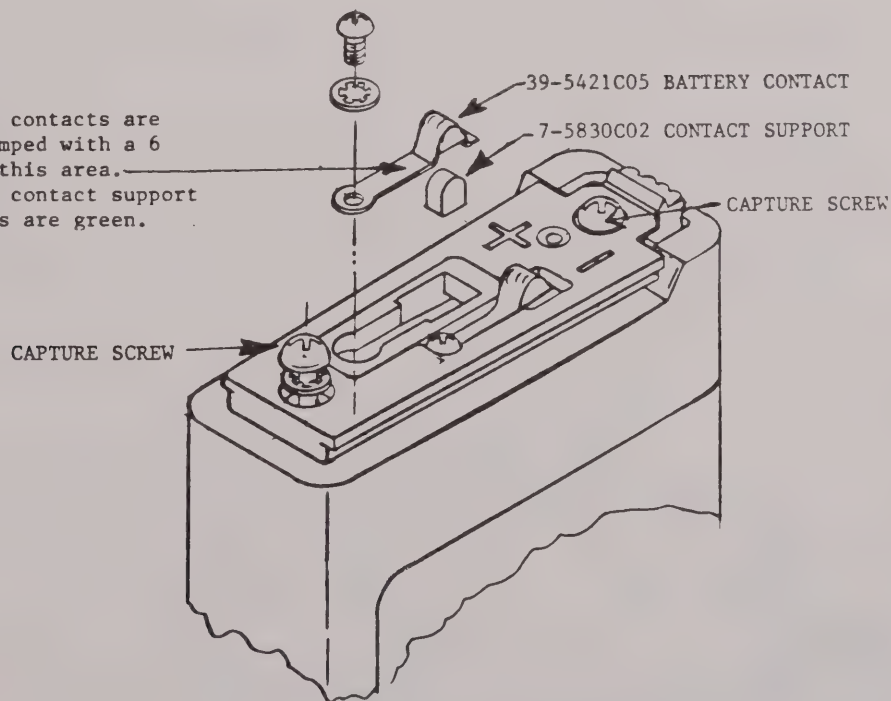

FIGURE 1
An improved battery contact and contact support have been designed for MX and Expo radios. (MXR has different contacts and is not included). The dimensions of the contact and contact pad have been changed so that the contact is about .010 to .020 inches higher than before. The material of the pad has been changed to provide a greater resilience. These changes produce a more reliable contact between battery and radio. This eliminates intermittent radio operation and/or loss of DES coding caused by poor contact between battery and radio. The new contact and support can be identified as noted in Figure 1. The new contact has a 6 stamped on it and the pad is green in color. It is recommended that the old contacts and supports be replaced during routine maintenance procedures.
- Step 2: Tighten baseplate capture screws to proper torque (Figure 1).